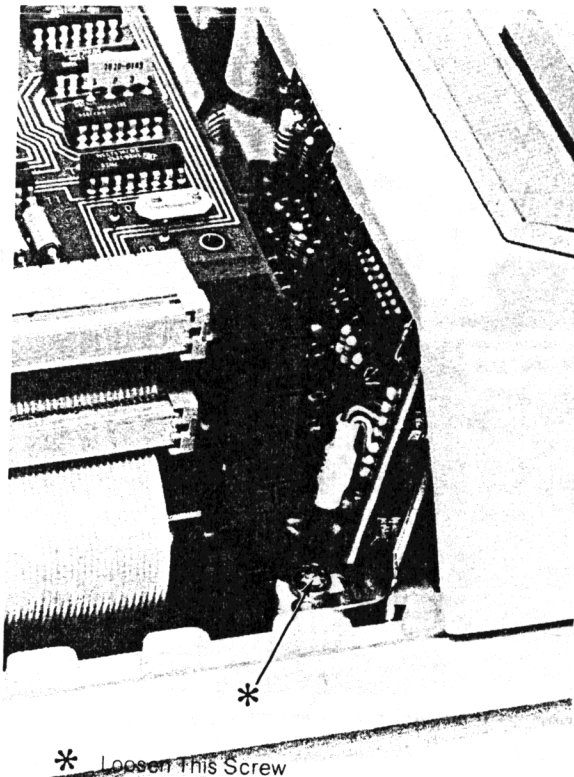

Figure 2-3A Left Hand Bezel Retaining Screw
- Loosen the two bezel retaining screws shown in Figures 2-3A and 2-3B. Do not remove these screws, three or four turns should be sufficient.